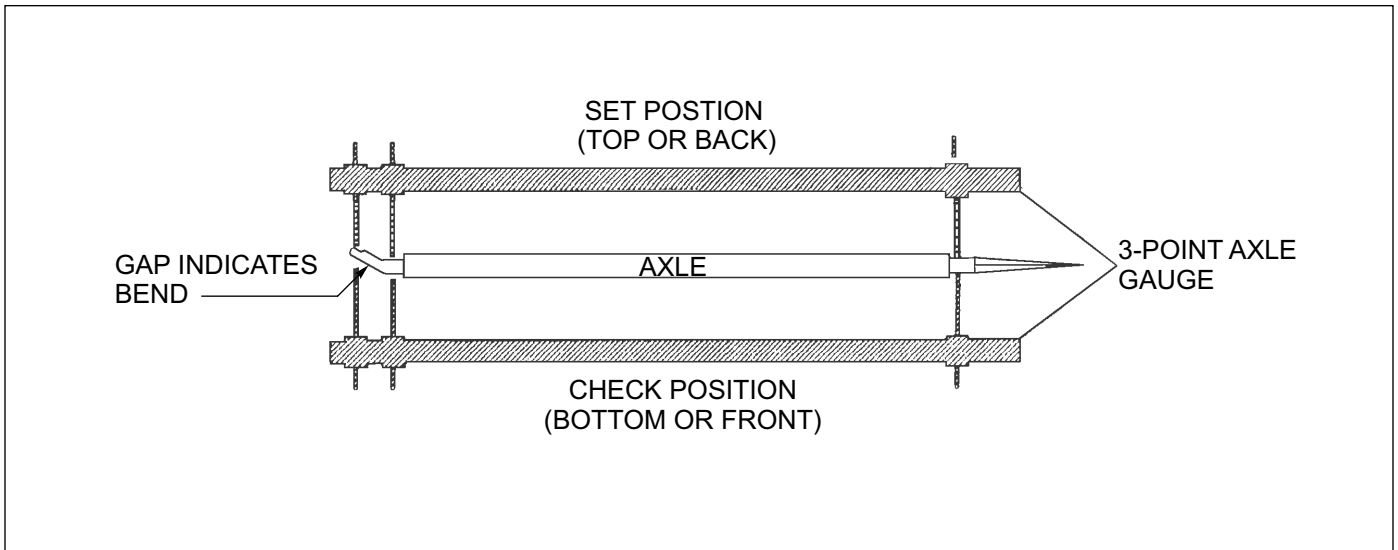

Figure 4-8: Checking Axle for Bend
2. Place a 3-point axle gauge against the front side of the axle, and adjust each axle gauge point to the axle. Double point end against the inner and outer wheel bearing surfaces of the spindle being checked and the other point on the inner bearing surface on the other spindle (See Figure 4-8.)
3. Move the axle gauge and place against the back side of the axle. If either of the points of double point end fails to touch the axle surface, a bent spindle is evident. A point gap of .015" or more is considered excessive tire “toe” and the axle must be replaced (See Figure 4-8.)